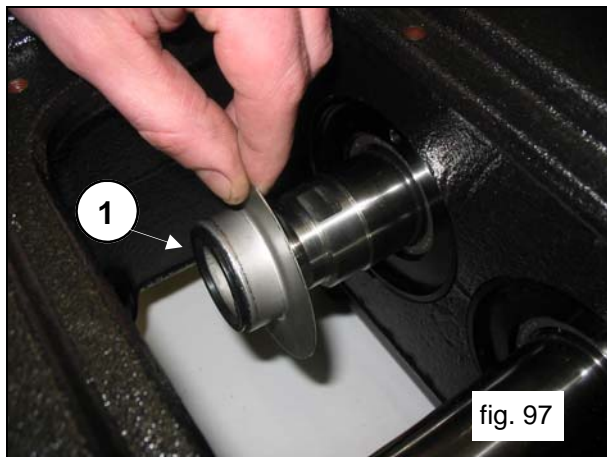

fig. 97
Position the spray-guard and the spray-guard spacer ring in the seat on the piston head stem (pos. ①, fig.97 and 98).